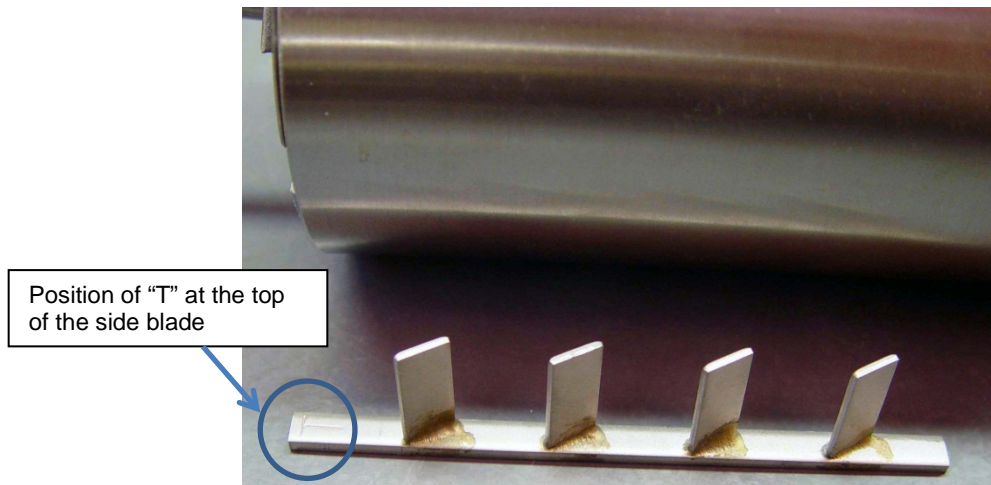

Figure 3-9 “T” on Side Blades Attached to Top of Slurry Cup
7. Place the “T” on the side blades to the top of the slurry cup (Figure 3-9).